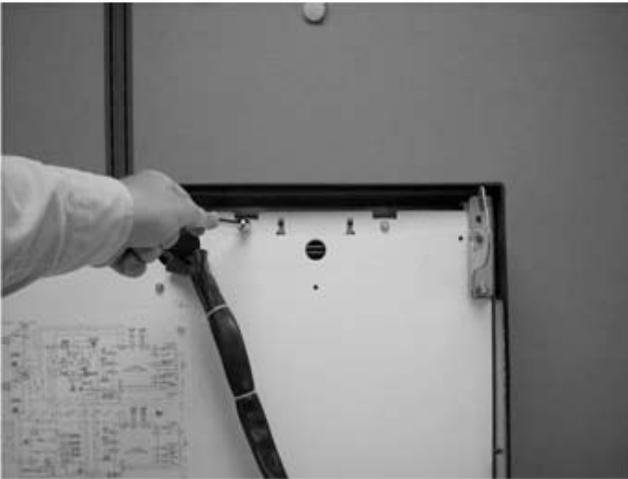
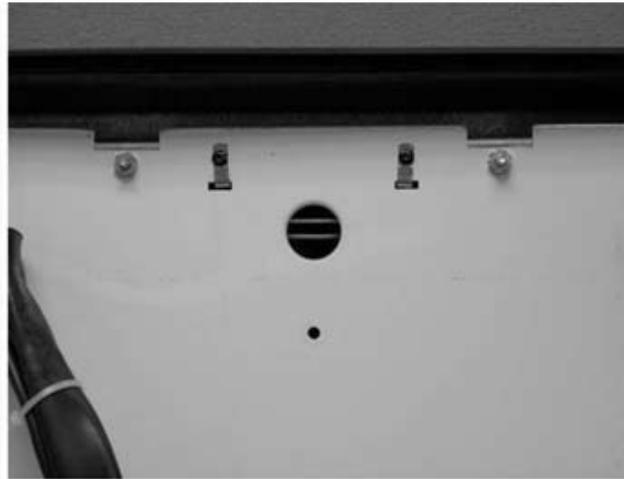

Figure 46. Back of Merchandiser
Figure 47. Back of Merchandiser
J. Attach nuts to both studs on back of merchandiser and tighten with tool, see Figure 46 and Figure 47.